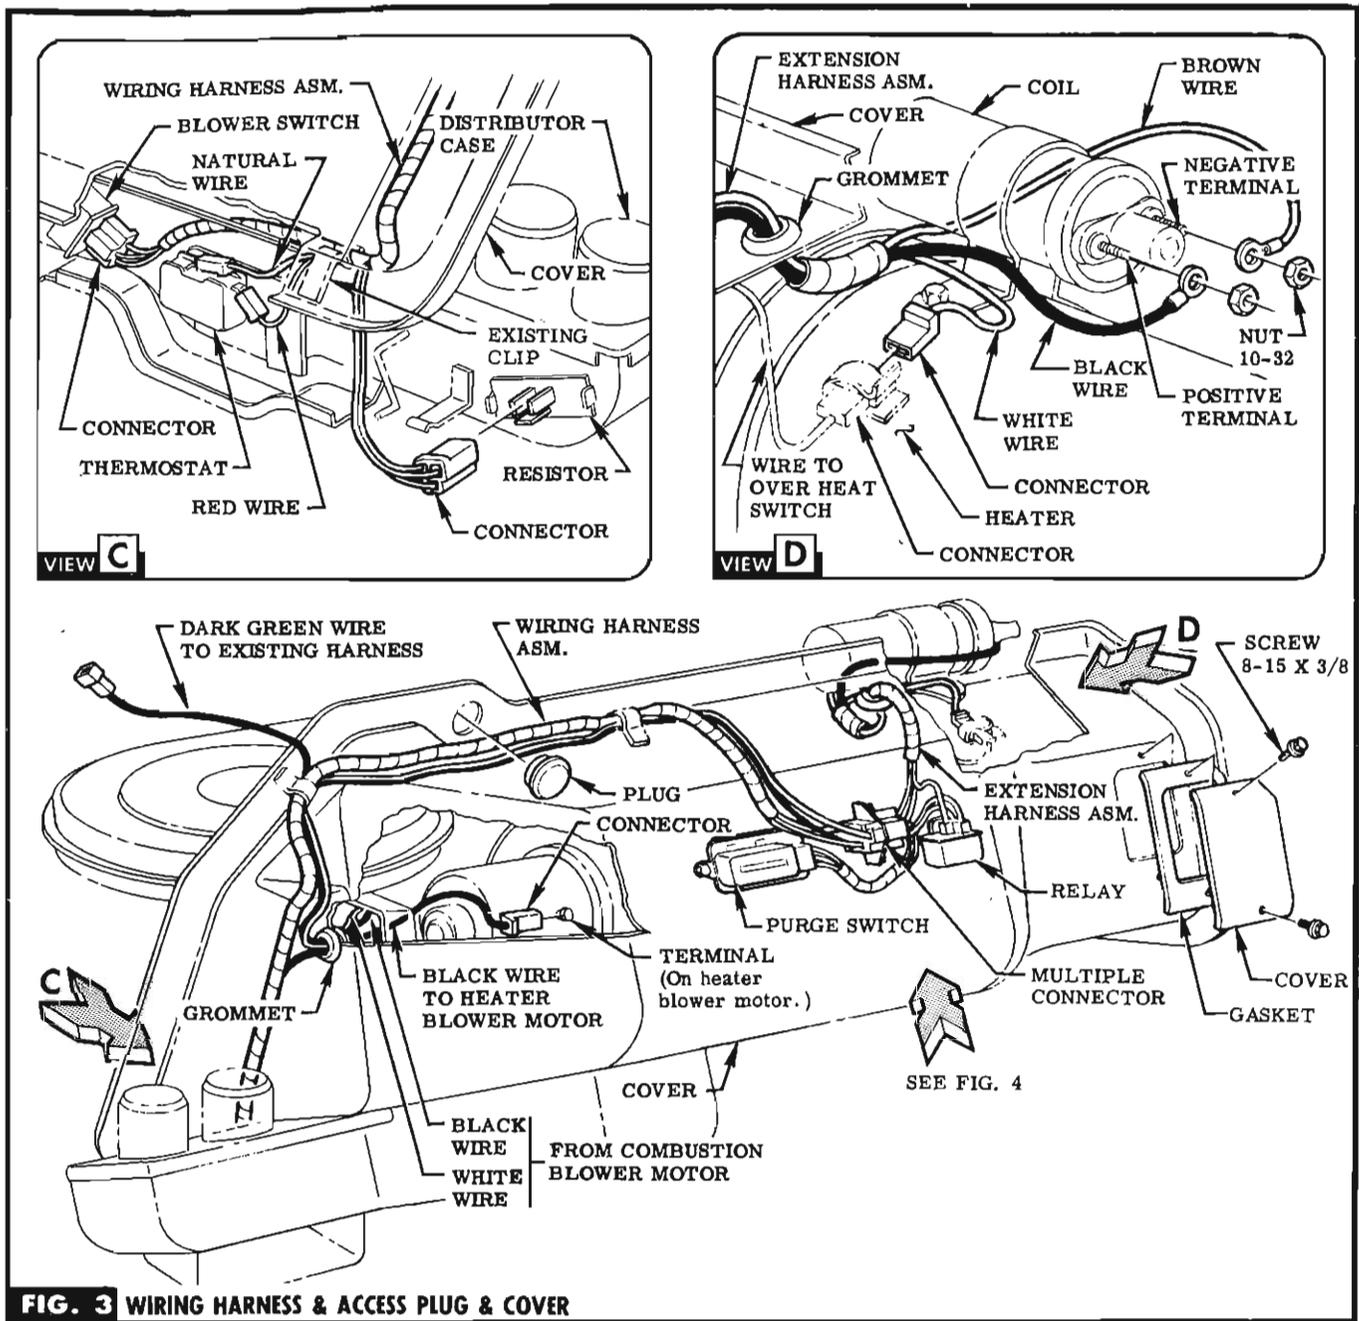

FIG. 3 WIRING HARNESS & ACCESS PLUG & COVER
STEP 14 INSTALL GROMMETS PROVIDED (IN BAG B) IN COVER. SEE FIG. 3 & VIEW D.
STEP 15 ROUTE BLACK WIRE CONNECTOR FROM HARNESS, THRU GROMMET & PLUG ONTO BLOWER MOTOR TERMINAL. SEE FIG. 3.
STEP 16 ROUTE BLACK & WHITE COMBUSTION BLOWER MOTOR WIRES THRU GROMMET & ACROSS TOP OF COVER ALONG WITH HARNESS. FIT INTO EXISTING CLIPS ON TOP OF COVER ASM. SEE FIG. 3.
STEP 19 ROUTE EXTENSION HARNESS THRU GROMMET TO HEATER COIL. SEE FIG. 3 & VIEW D.
STEP 22 INSTALL PLUG (RETAINED FROM DISCARDED HEATER HOLE COVER) & ATTACH ACCESS COVER USING SCREWS & GASKET PROVIDED (IN BAG C). SEE FIG. 3.